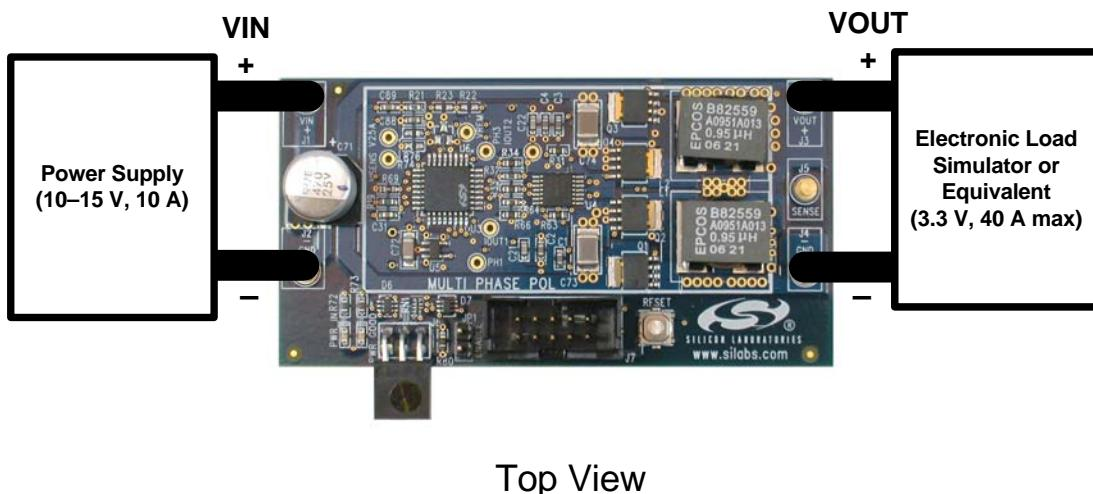

Figure 2. Board Power Configuration
1. Connect a  $V_{IN}$  power supply to the  $V_{IN}$  terminals (J1 and J2) as shown in Figure 2. Do not yet turn the power supply on.
2. Connect a load to the  $V_{OUT}$  terminals (J3 and J4) as shown in Figure 2. For initial testing, a  $2\ \Omega$ , 15 W resistor is recommended. For higher output currents, an electronic load simulator can be used.
8. Connect a load to the  $V_{OUT}$  terminals (J3 and J4) as shown in Figure 2 on page 3. For initial testing, a  $2\ \Omega$ , 15 W resistor is recommended. For higher output currents, an electronic load simulator can be used.